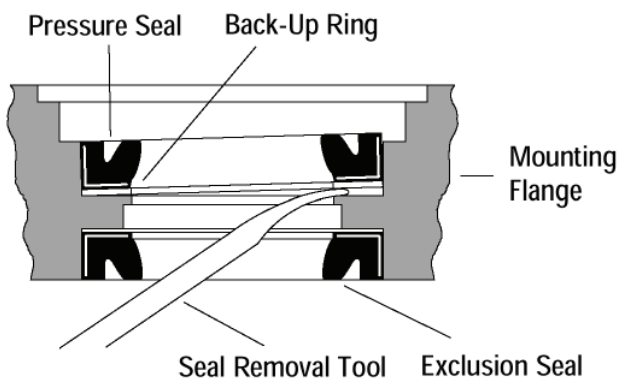

Figure 4
- Carefully remove the exclusion seal and pressure seal from the mounting flange. A seal removal tool may be fabricated by bending and rounding the end of a small blade screwdriver, see Figure 4.